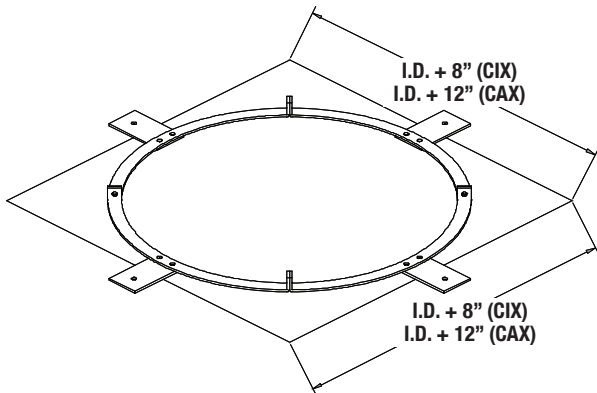

Figure 31 - Floor guide (FG)
1. The floor guide is used the same manner as the wall guide but it is modified for use at floor penetrations. See **Figure 31** (floor guide).